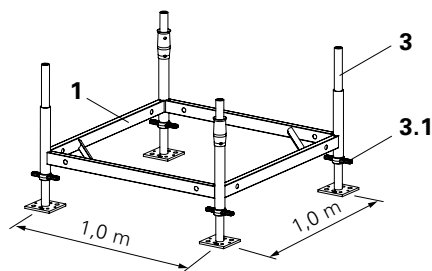

Fig. A1.01
1. Insert four Base Spindles TR 38-70/50 (3) into the Base-Head Frame ST 100 (1). (Fig. A1.01)